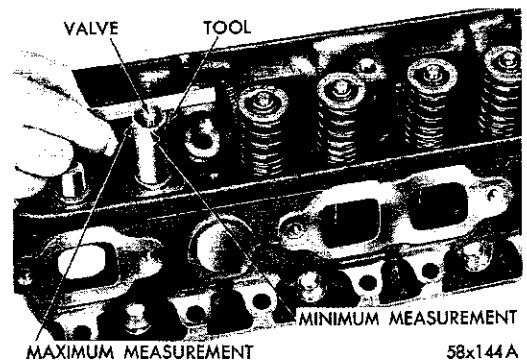

Fig. 13—Measuring Valve Stem Length Using Tool C-3648
(5) To insure that the limits have not been exceeded, the dimension from the valve spring seat in the head to the valve tip should be measured with gauge, Tool C-3648, as shown in Figure 13.
(6) The end of the cylindrical gauge and the bottom of the slotted area represent the maximum and minimum allowable extension of the valve stem tip beyond the spring seat.
(7) If the tip exceeds the maximum, grind the stem tip to within the gauge limits. Clean the tappets if tip grinding is required.